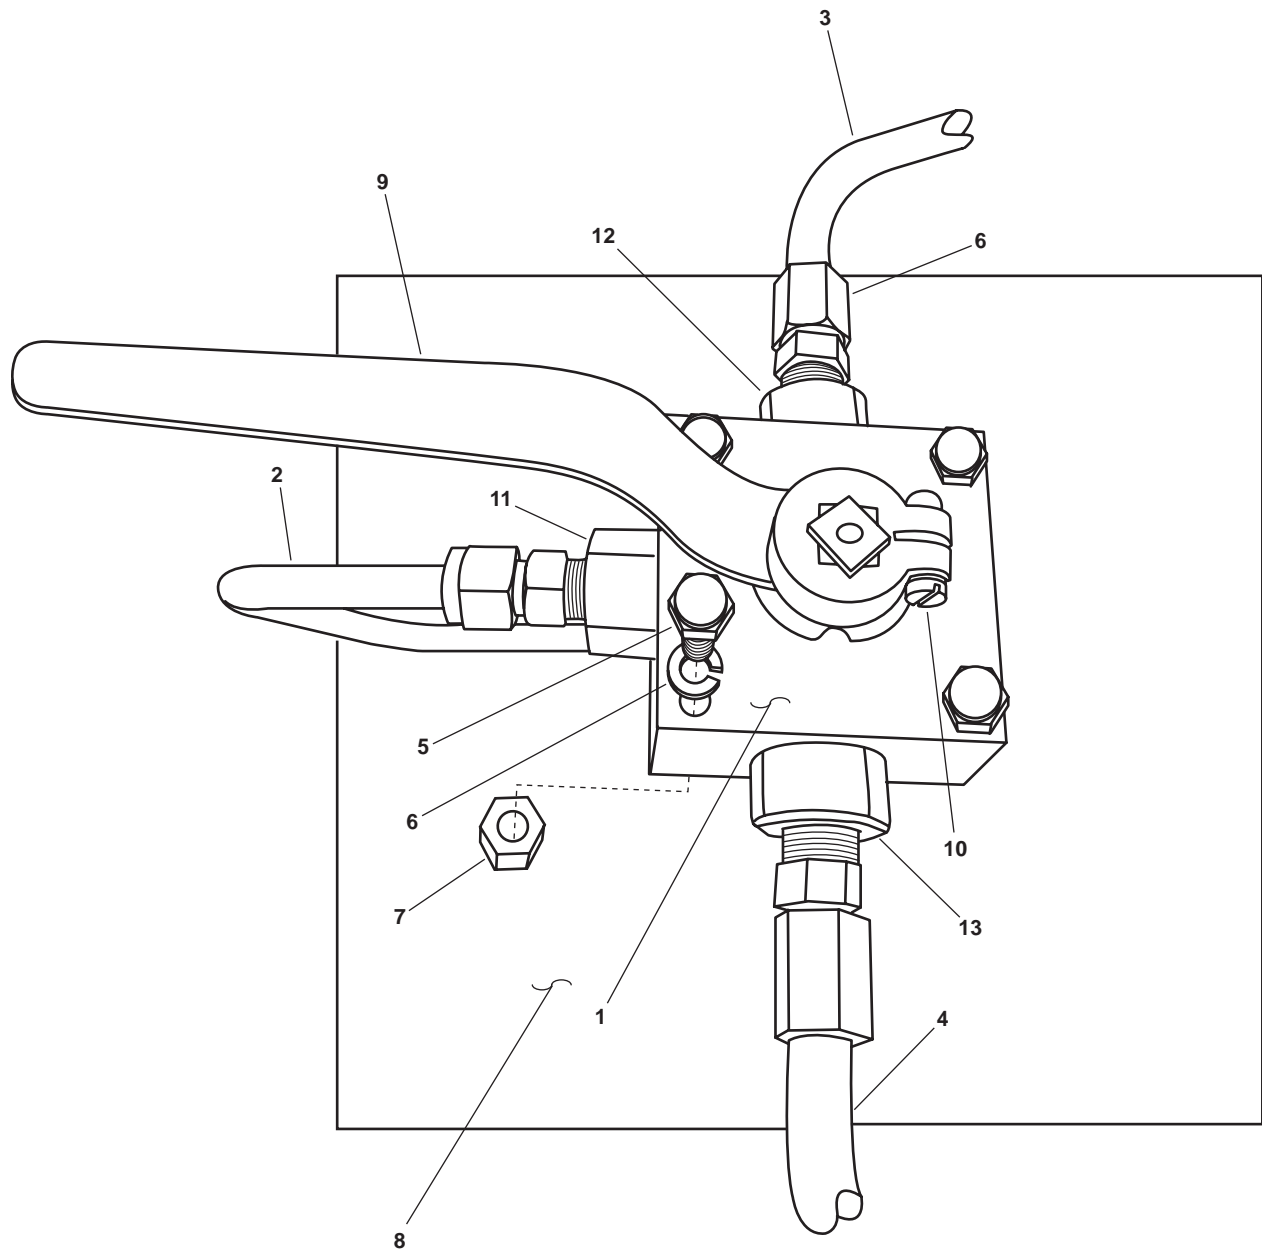

Figure 3. 3-Way Ball Valve
1. Place a suitable drain pan under the 3-way ball valve (figure 3, item 1).
2. Remove the pilot motor connection hydraulic tubing (figure 3, item 2) from the 3-way ball valve (figure 3, item 1). Drain any hydraulic fluid into the suitable drain pan.
3. Remove the low speed hydraulic tubing (figure 3, item 3) from the 3-way ball valve (figure 3, item 1). Drain any hydraulic fluid into the suitable drain pan.
4. Remove the high speed hydraulic tubing (figure 3, item 4) from the 3-way ball valve (figure 3, item 1). Drain any hydraulic fluid into the suitable drain pan.
5. Remove the four bolts (figure 3, item 5), the four lockwashers (figure 3, item 6) and the four nuts (figure 3, item 7) from the 3-way ball valve (figure 3, item 1). Discard the lockwashers.
6. Remove the 3-way ball valve (figure 3, item 1) from the mounting bracket (figure 3, item 8).
7. Remove the handle (figure 3, item 9) from the 3-way ball valve (figure 3, item 1) by loosening the screw (figure 3, item 10).
8. If a new 3-way ball valve (figure 3, item 1) will be installed, remove the three fittings (figure 3, items 11, 12, and 13) from the 3-way ball valve.
1. If a new 3-way ball valve (figure 3, item 1) is being installed, install the three fittings (figure 3, items 11, 12, and 13) in the 3-way ball valve.
2. Install the handle (figure 3, item 9) on the 3-way ball valve (figure 3, item 1) and secure it by tightening the screw (figure 3, item 10).
3. Install the 3-way ball valve (figure 3, item 1) on the mounting bracket (figure 3, item 8).
4. Install the four bolts (figure 3, item 5), the four new lockwashers (figure 3, item 6) and the four nuts (figure 3, item 7).
5. Install the high speed hydraulic tubing (figure 3, item 4) to the 3-way ball valve (figure 3, item 1).
6. Install the low speed hydraulic tubing (figure 3, item 3) to the 3-way ball valve (figure 3, item 1).
7. Install the pilot motor connection hydraulic tubing (figure 3, item 1) to the 3-way ball valve (figure 3, item 1).